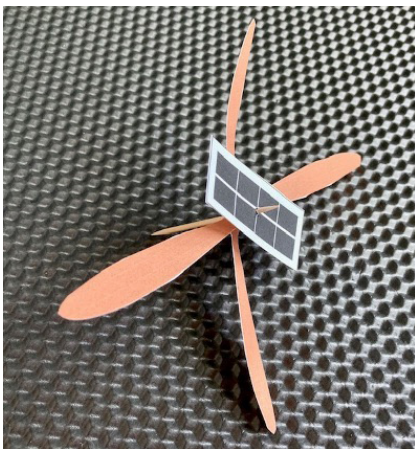

Figure 7. The toothpick is pushed through both rotor blades and the solar panel.
8. Push the end of the toothpick with the rotor blades on it through the hole in the center of the solar panel as shown in Figure 7. There should be about $\frac{1}{4}$ inch of the toothpick sticking out from the top of the solar panel. This piece of the toothpick represents the antenna located atop Ingenuity.